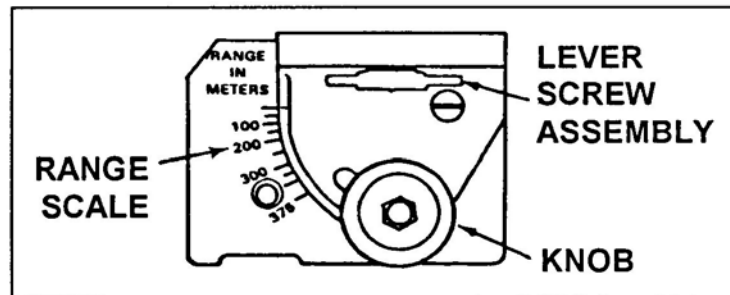

Figure 3. Set Range on Range Indicator
4. Set the range as determined on the range indicator of the mounting bracket (Figure 3).